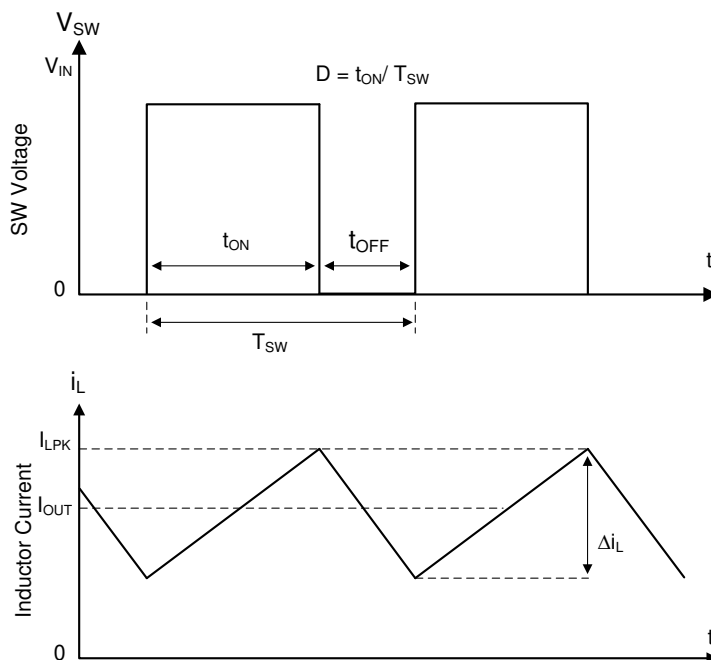

Figure 7-1. SW Node and Inductor Current Waveforms in Continuous Conduction Mode (CCM)
The following operating description of the LMR516xx refers to the Functional Block Diagram and to the waveforms in Figure 7-1. The LMR516xx is a step-down synchronous buck converter with integrated high-side (HS) and low-side (LS) switches (synchronous rectifier). The LMR516xx supplies a regulated output voltage by turning on the high-side and low-side NMOS switches with controlled duty cycle. During high-side switch ON time, the SW pin voltage swings up to approximately V_{IN} , and the inductor current, i_L , increases with a linear slope of $(V_{IN} - V_{OUT}) / L$. When the high-side switch is turned off by the control logic, the low-side switch is turned on after an anti-shoot-through dead time. Inductor current discharges through the low-side switch with a slope of $-V_{OUT} / L$. The control parameter of a buck converter is defined as Duty Cycle $D = t_{ON} / T_{SW}$, where t_{ON} is the high-side switch ON time and T_{SW} is the switching period. The converter control loop maintains a constant output voltage by adjusting the duty cycle D . In an ideal buck converter, where losses are ignored, D is proportional to the output voltage and inversely proportional to the input voltage: $D = V_{OUT} / V_{IN}$.